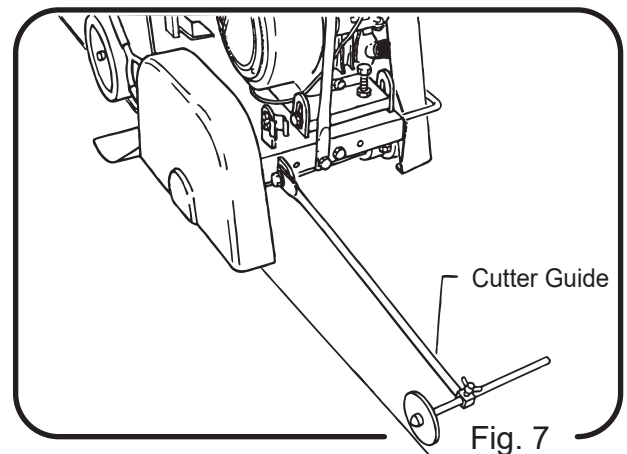

Fig. 7
Set the cutter guide, aligning it with the blade. (Fig. 7)
- 8.2.1. Align the cutting guide with pre-determined cutting line. Aligning is easier if it is done with the machine lifted. (Fig. 7)